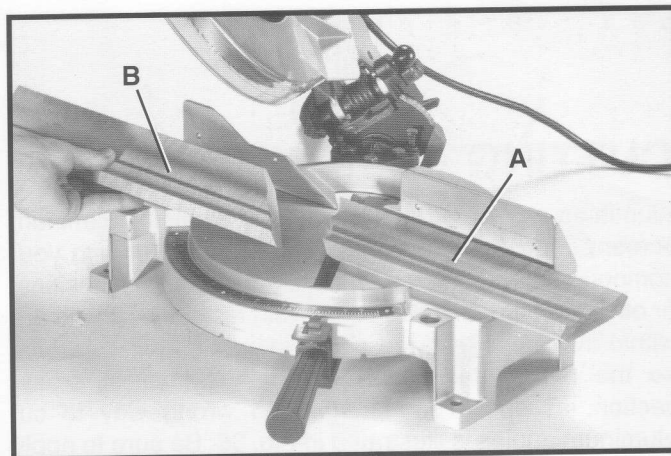
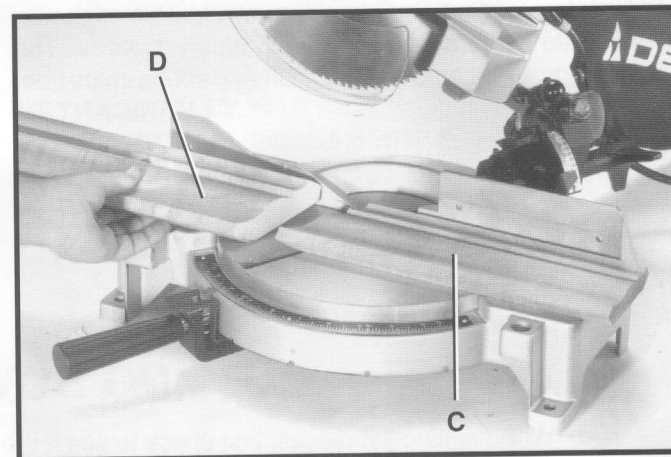
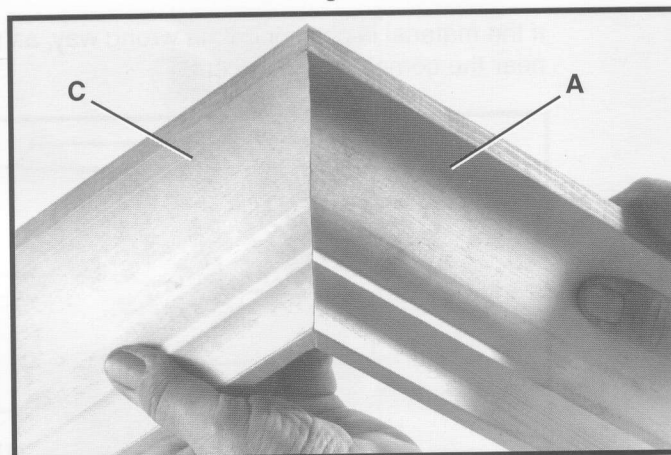
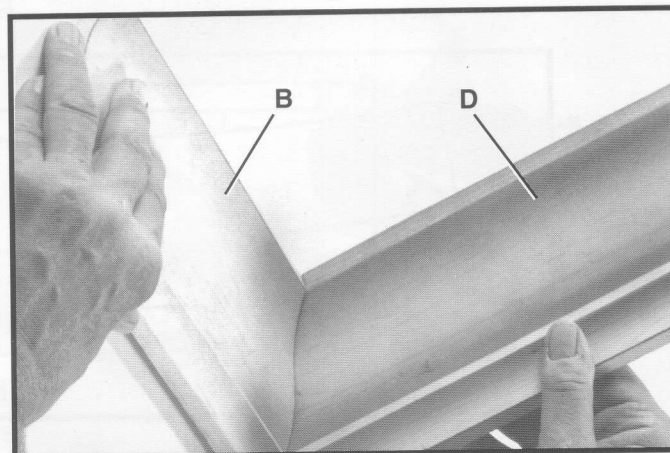

Fig. 39
Fig. 40
Fig. 41
Fig. 42
3. Place the crown moulding on the table with the **CEILING EDGE** of the moulding against the fence, and make the cut, as shown in Fig. 39. **NOTE:** The piece of crown moulding used for the outside corner will always be on the right hand side of the blade, as shown at (A) Fig. 39. The piece of crown moulding used for the inside corner will always be on the left hand side of the blade, as shown at (B) Fig. 39.
5. Place the crown moulding on the table with the **WALL EDGE** of the crown moulding against the fence and make the cut. Again, the piece of crown moulding used for the outside corner will always be on the right side of the blade, as shown at (C) Fig. 40. The piece of crown moulding used for the inside corner will always be on the left side of the blade, as shown at (D) Fig. 40.
6. Fig. 41, illustrates the two outside corner pieces; (A) being the piece cut at (A) Fig. 39, and (C) being the piece cut at (C) Fig. 40.
7. Fig. 42, illustrates the two inside corner pieces; (B) being the piece cut at (B) Fig. 39, and (D) being the piece cut at (D) Fig. 40.